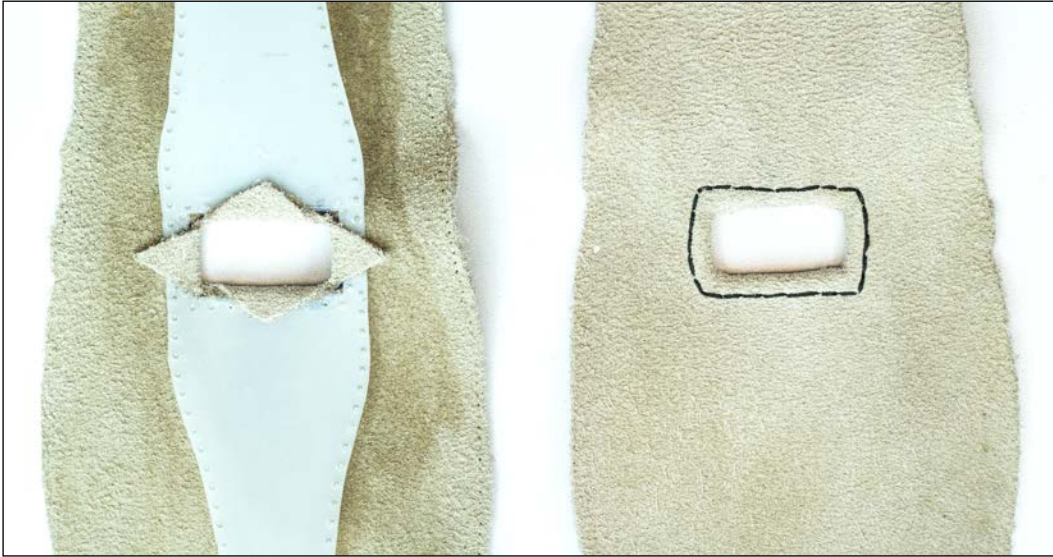

Figure 9.11: The flaps glued on the inside and the stitching around the screen from the outside
2. Cutting the hole into the leather should leave you with four flaps as in *Figure 9.10*. Fold these flaps one by one so that they end up on the inside of the template to the left, as shown in *Figure 9.11*.
2. In order to hold the latch in place, a hole is cut at the base of the flap, and then the flap is pulled through the latch and glued in place, as seen on the left-side of *Figure 9.11*.